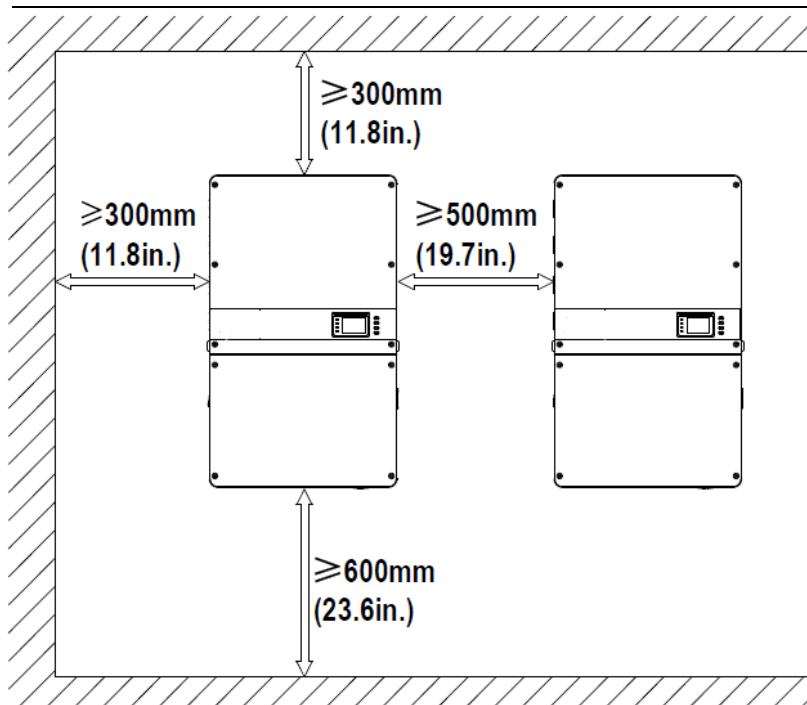

Figure 2.3 - Inverter Wall Mounting Specifications
- ✓ Sufficient space according to Figure 2.3 should be provided to allow the inverter cooling system to operate normally.
3) Installation Space Requirement (see Figure 2.3):